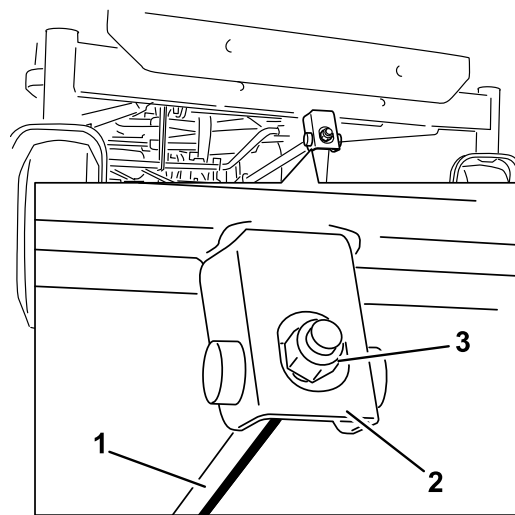

Figure 56
- To adjust the front-to-rear blade slope, rotate the adjustment nut in the front of the mower (Figure 56).